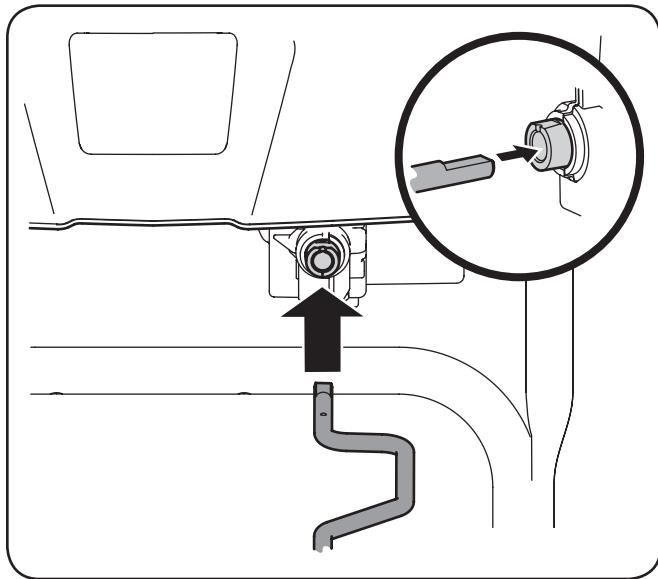

Figure 3-7
- Insert the other end of the chute control rod into the coupler below the handle panel. Make sure to line up the flat end of the rod and the flat end of the coupler. You may need to rotate the rod around until these two surfaces line up. See Figure 3-7 inset.